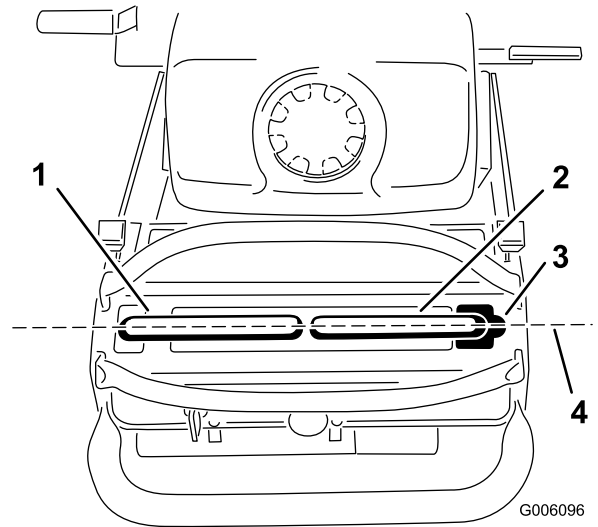

Figure 44
Important: Ensure the tracking of the mower is correct after adjusting the motion control levers. After adjusting the tracking, the motion control levers may not align the exactly front to back (Figure 44).
1. After the horizontal alignment is finished, check the front to back alignment (Figure 44).